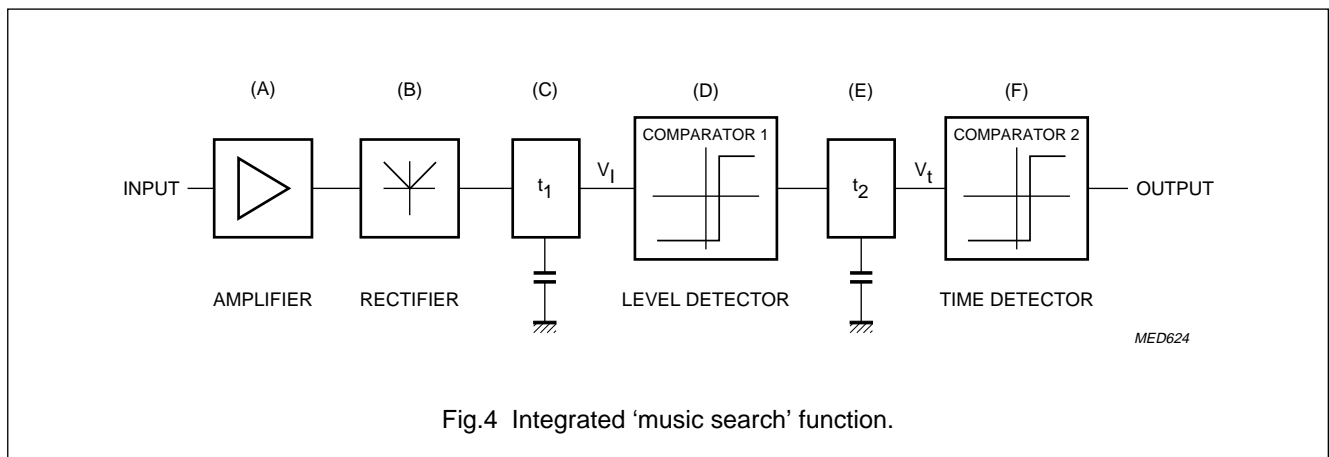

Fig.4 Integrated 'music search' function.
A system for 'music search' mainly consists of a level and a time detection (see Fig.4). For adapting and decoupling the input signal will be amplified (A), then rectified (B) and smoothed with a time constant (C). So the voltage at (C) corresponds to the signal level and will be compared to the predefined pause level at the first comparator (D), the level detector. If the signal level becomes smaller than the pause level, the level detector changes its output signal. Due to the output level of the level detector the capacitor of the second time constant (E) will be charged,